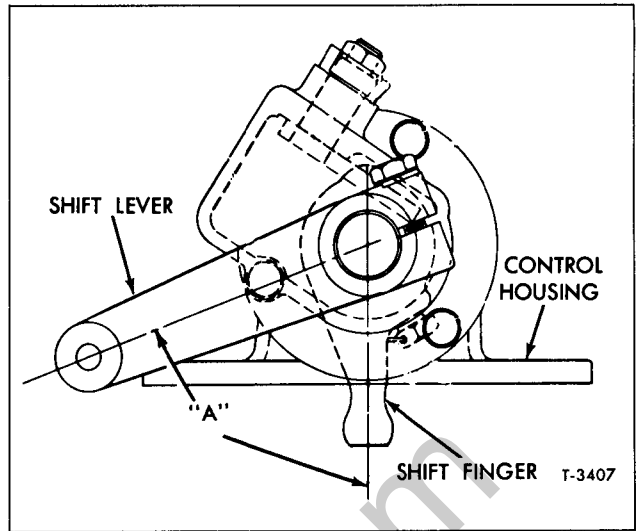

Figure 11—Rod Type Remote Control Assembly Adjustment
8. Install end cover (19) to control housing (3). Tighten attaching bolts firmly.
9. Install shift finger screw (21) and new lock wire to shift finger (4).
10. Position selection lever (11) on selection cam and stud assembly (6), so that selection lever is parallel to the shift finger shaft (15). Tighten attaching nut firmly.
11. Align marks on shift lever (16) and shift finger shaft (15). If not previously marked position shift lever on shift finger shaft, so that angle "A" shown in figure 11 is as follows: